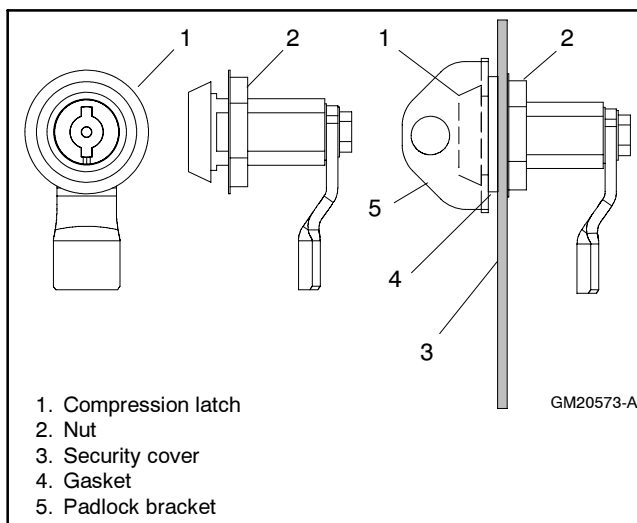

Figure 8 Compression Latch
4.1 Remove the nut from the compression latch (GM22534). See Figure 8.